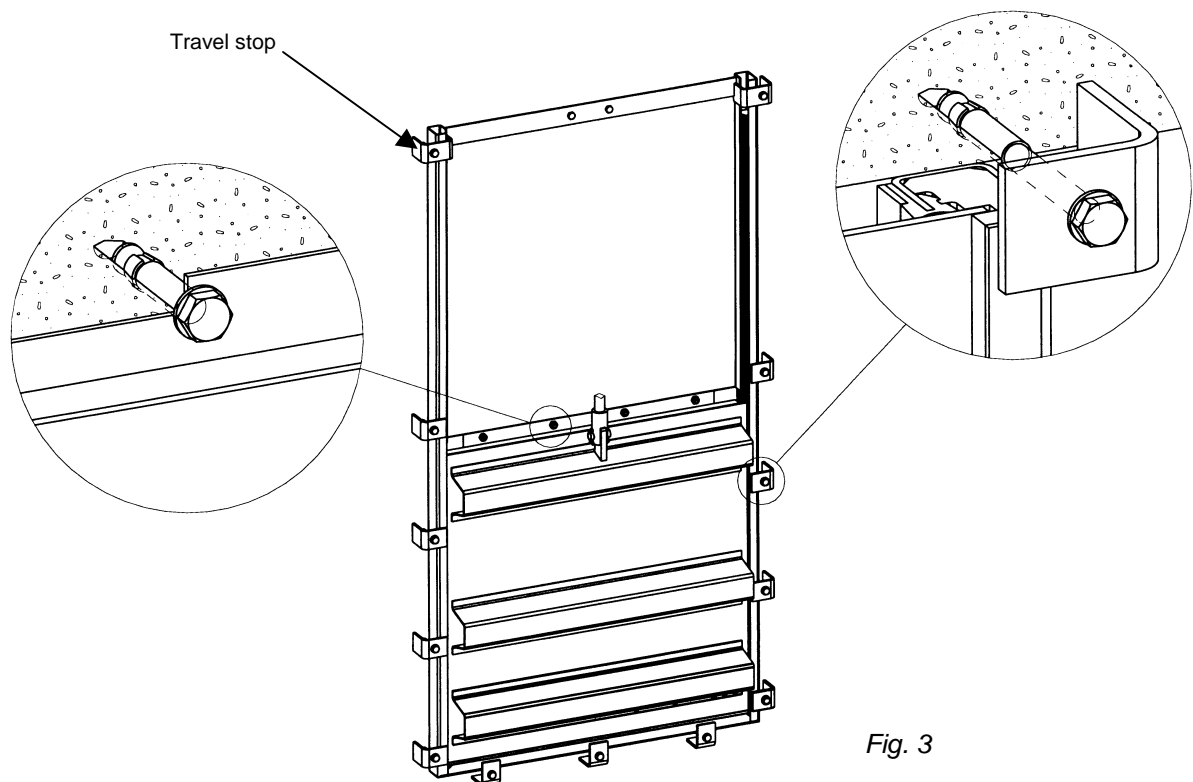

Fig. 3
- Position sluice gate in the respective recess or in front of the wall opening to shut-off and align with plumb and level, acc. Fig. 3.